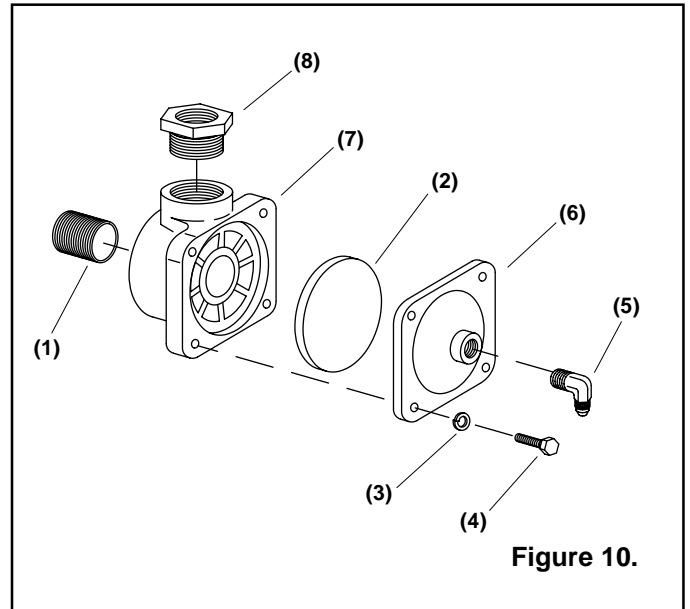

Figure 10.
**7.8 1" Diaphragm Outlet Valve, Figure 10**